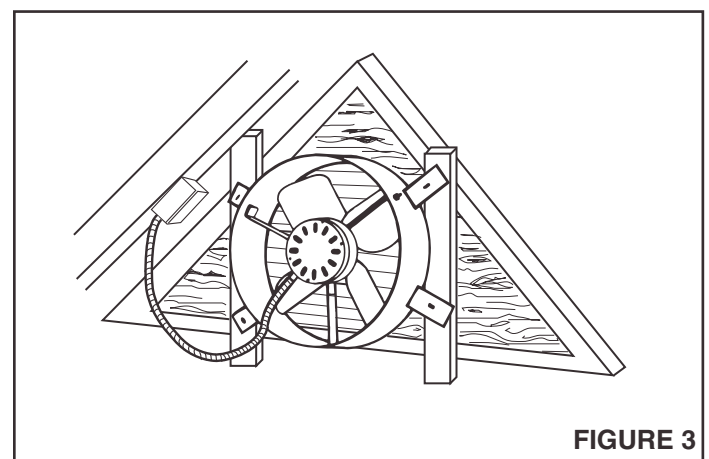

FIGURE 3
- Cover remaining area of louver. (See Figure 3)